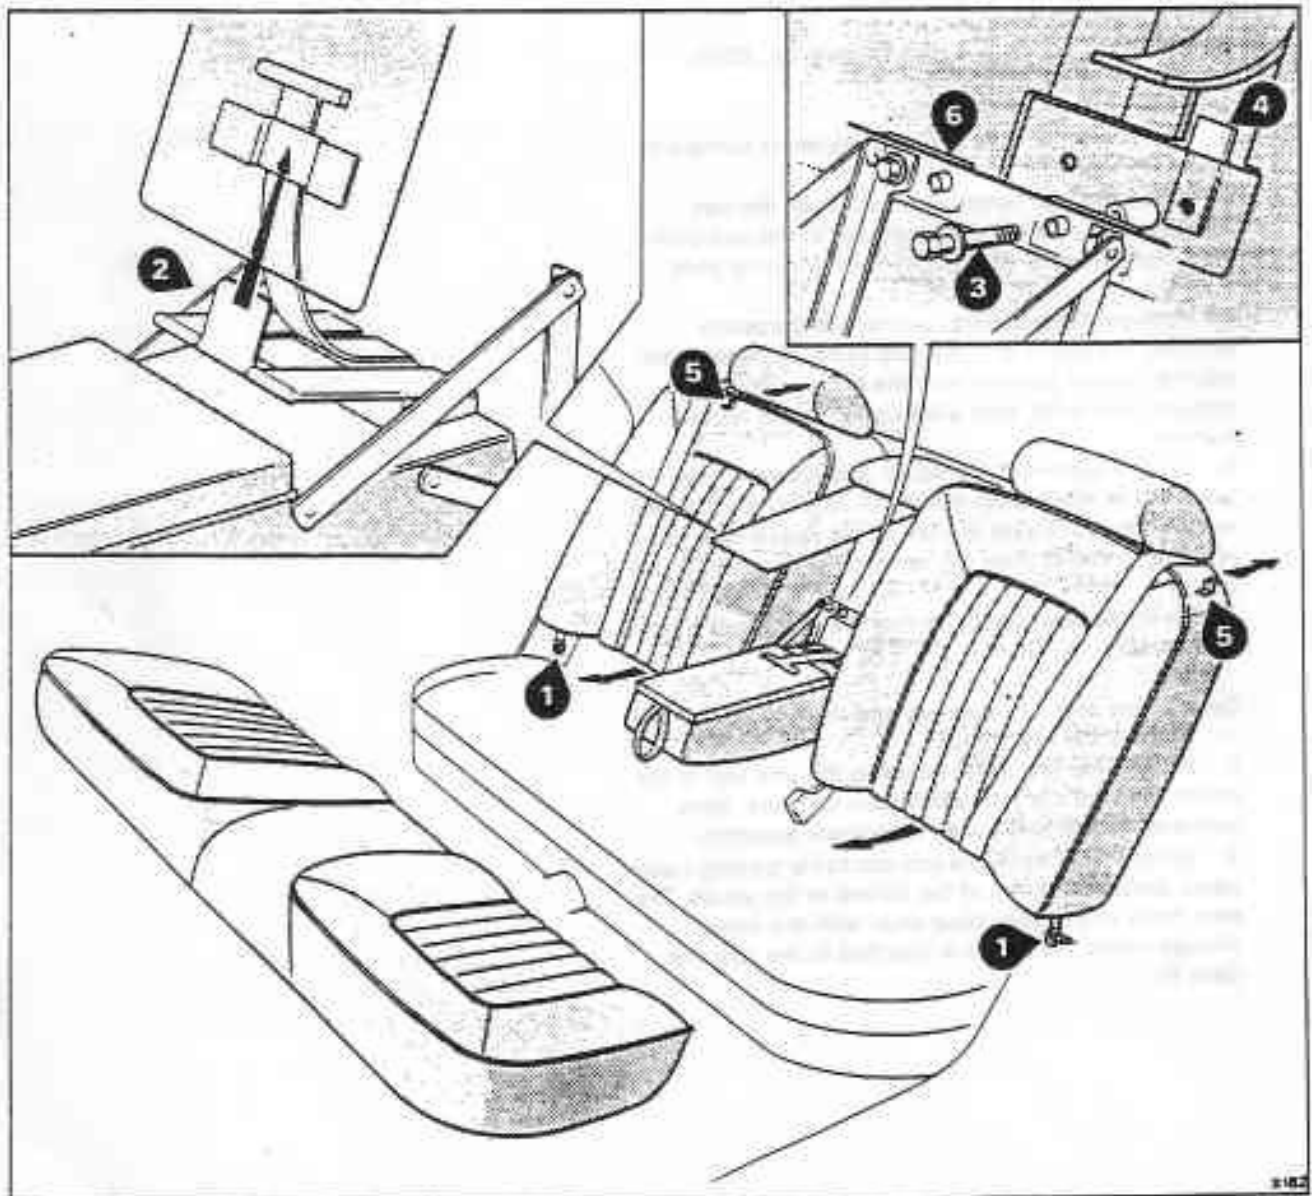

Fig. S5-6 Removing the rear seats
Rear squab - To remove and fit (see fig. S5-6)
Centre arm rest - To remove and fit (see fig. S5-6)
3. Release the screws securing the lower corners of the squab (see Section S5, fig. S5-6).